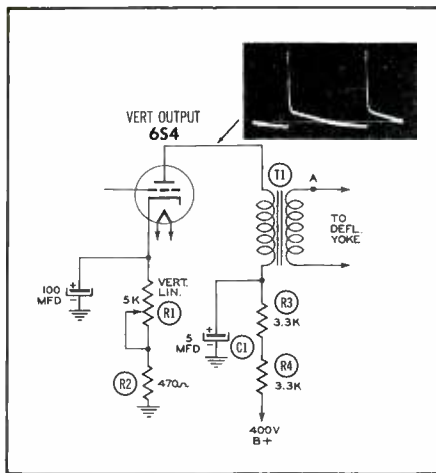

Fig. 8. The Polarity of the Signal Appearing at Point A Depends Upon the Manner in Which the Transformer T₁ is Wired.
1. A signal passing through a transformer will suffer a 180-degree reversal only if the primary and secondary windings possess the proper relationship to each other. To illustrate, let us suppose that the primary winding of the transformer in Fig. 8 is connected as shown to the plate circuit of the vertical-output amplifier. The polarity of the signal at point A on the secondary (with respect to ground) may either be the same as that shown on the plate or 180 degrees out of phase with it, depending on how the unit is wired. Suppose you find that the polarity is unchanged. Then, you can achieve the desired reversal by reversing the connections of the primary winding. To keep the picture from being reversed vertically at the same time, simply reverse the lead connections to the vertical windings of the deflection yoke.